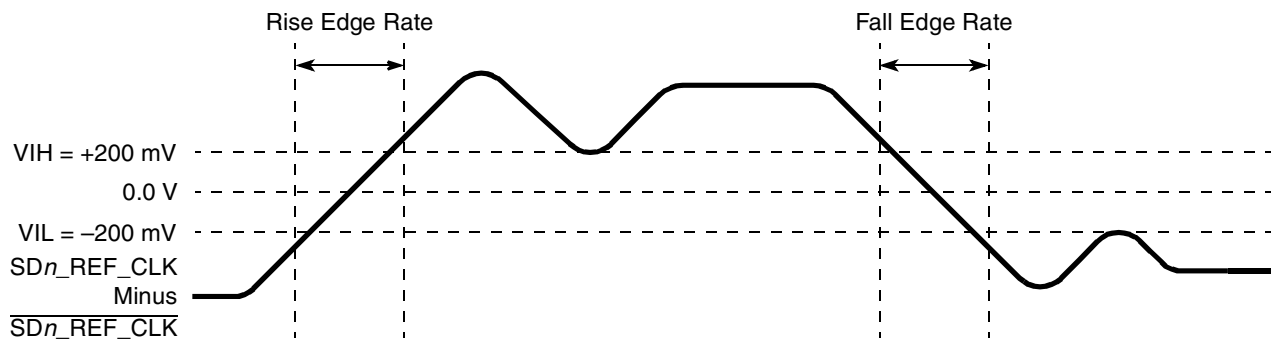

Figure 60. Differential Measurement Points for Rise and Fall Time
The differential waveform is constructed by subtracting the inverting signal ($\overline{SDn_TX}$, for example) from the non-inverting signal (SDn_TX , for example) within a differential pair. There is only one signal trace curve in a differential waveform. The voltage represented in the differential waveform is not referenced to ground. Refer to Figure 60 as an example for differential waveform.
- 3 Measured from -200 mV to +200 mV on the differential waveform (derived from SDn_REF_CLK minus $\overline{SDn_REF_CLK}$). The signal must be monotonic through the measurement region for rise and fall time. The 400 mV measurement window is centered on the differential zero crossing. See Figure 60.